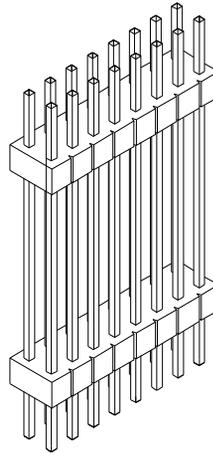

FIG. 20 16 PIN BOARD STACKER
Step 1. Plug the 16 pin board stacker into the J9 header on the Analog board. (See Figs. 20 & 21)